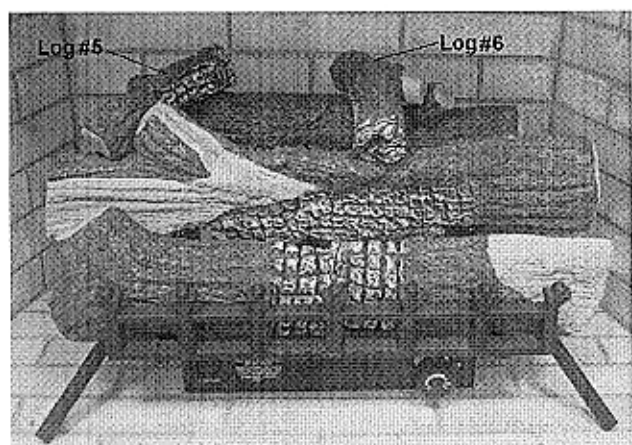

Figure 21-Installing Log #5 and Log #6
5. Place log #5 and log #6 on the top of log #1 and log #2 by inserting holes on the back of log #5, insert log #6 into the pins on the top of log #1, and make sure the other side of log #6 lines up with the recess of log #2 (see Figure 21).